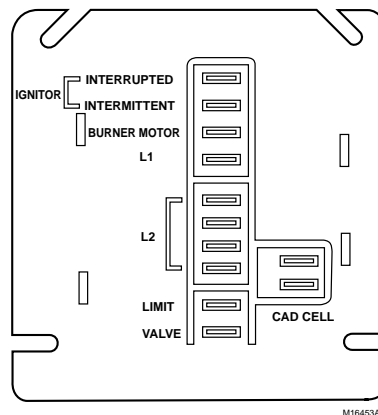

Fig. 2. R7184 wiring connections.
3. Connect the rest of the colored wires with insulated quick-connects on cable W2 to the connectors on the bottom of the R7184 (see Fig. 2) according to the following table: